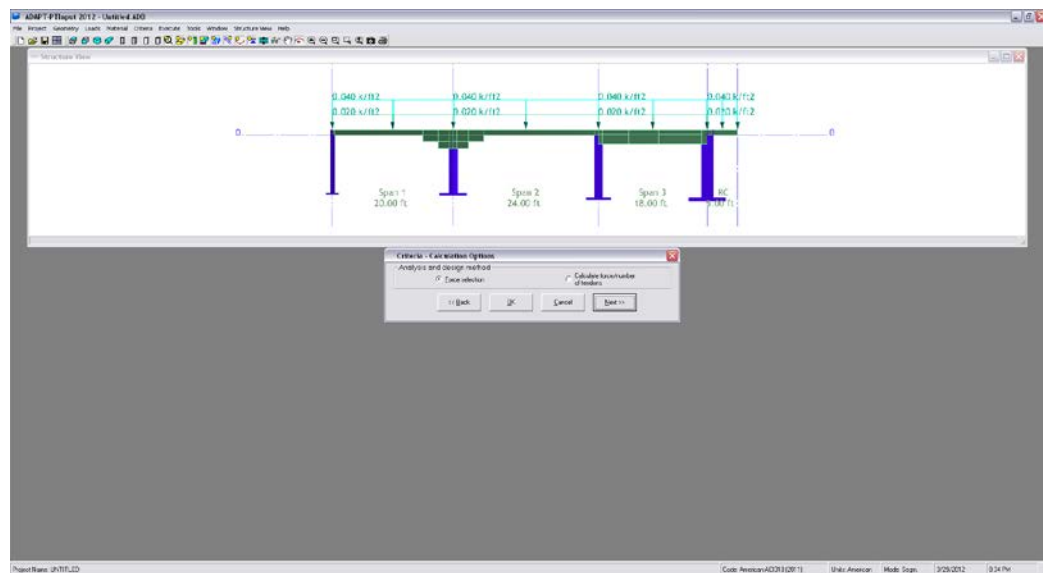

FIGURE 5.3-24
5.3.5.3 Select The Post-Tensioning Design Option (Fig. 5.3-24)
The two design options are “Force Selection” and “Force/Tendon Selection”, as in **Figure 5.3-24**. **Force Selection** is the default option and will be used for this example.